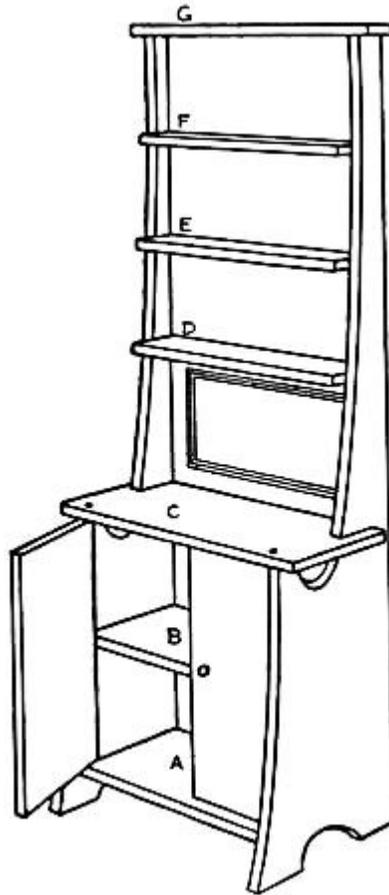

FIG. 132.—A Side-board.
**A Side-board** similar to Fig. 132 should be made for the dining-room. The pattern for the side pieces is shown in Fig. 122. After sawing these out, cut a piece seven inches long by three inches wide for the back and fasten the side-pieces to the edges of it. The location of the shelves can be obtained best by referring to Fig. 132 and the pattern in Fig. 122. Cut the bottom shelf (*A* in Fig. 132) three inches long by an inch and one-quarter wide and fasten it to the side-pieces half an inch above the base (line 24 on pattern, Fig. 122). Make shelf *B* three by one inches and place it at line 22. *C* should be three and three-quarters inches long by an inch and one-half wide, with a small notch cut near each end with your knife, to make it fit over the side-pieces (see illustration). Cut shelf *D* three inches long by half an inch wide, fastening it in place at line No. 17, *E* three inches long by seven-sixteenths of an inch wide, fastening it at line
The lower portion of the side-board is enclosed with two doors two inches high by an inch and one-half wide. Small pieces of cloth may be used for hinges, but it is better to use pins, running them through the shelf above and below (*A* and *C*, Fig. 132) into the doors. Stick the pins near the edge of the doors and see that they are straight, so the doors will open easily. A small mirror attached to the back between shelves *C* and *D* will complete this piece of furniture.